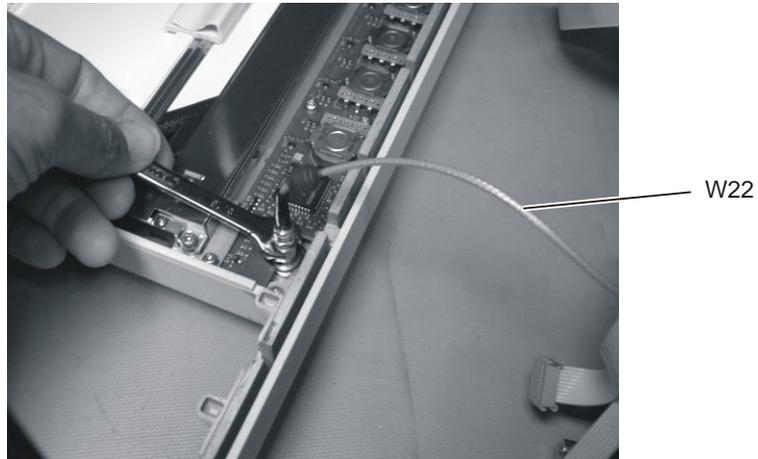

Figure 7-13. Removing the Front Panel Trigger Cable
- 9 Use a 5/16 inch wrench to remove the W22 cable from the front panel trigger input, as shown in Figure 7-13.